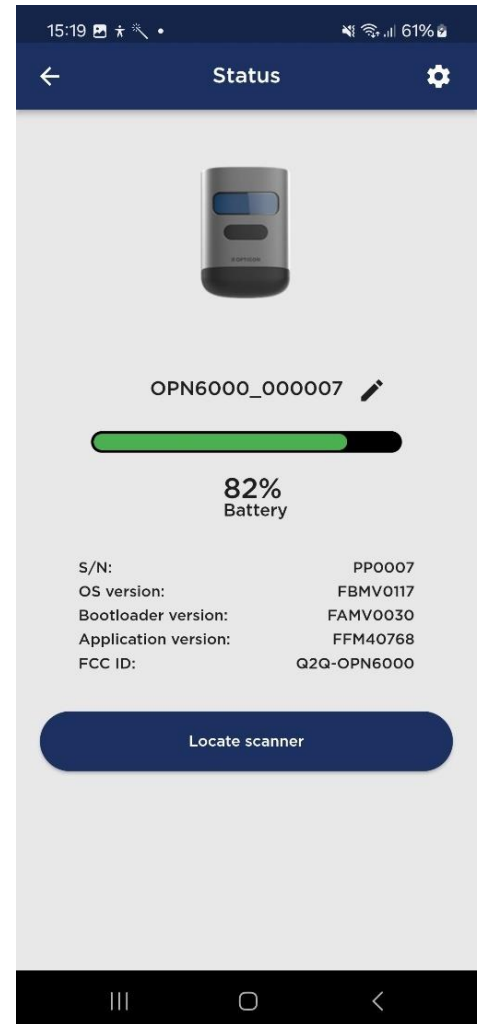

Figure 6-3: The *Status* page of a connected scanner.
- **Status Page Access:** Clicking on a device row redirects you to the *Status* page, where detailed information about the device is shown, including battery percentage, serial number, OS version, and more. You can also rename the scanner here (see Figure 6-3).
The LED settings page contains a slider to adjust the good read LED color, available only for the OPN-2500 and OPN-6000 models. The custom LED color can be used to identify your scanner among other scanners by using the *Locate Scanner* feature (see Figure 6-3). Additionally, by pressing both the scan button and the function key, the LED color will be visible, making it easier to identify your scanner.